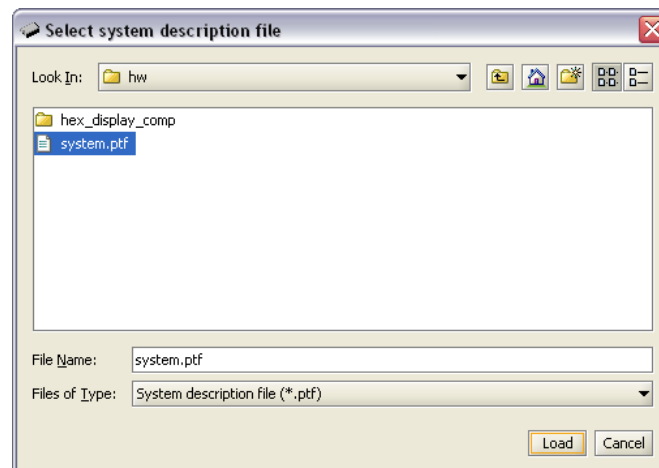

Figure 9. Select system description file window.
2. Click **Browse...** to display a window similar to Figure 9. Navigate to `<TUTORIAL_FILES>\example\hw\system.ptf`, which is the system description file for the example system. Select *system.ptf* and click **Load**.